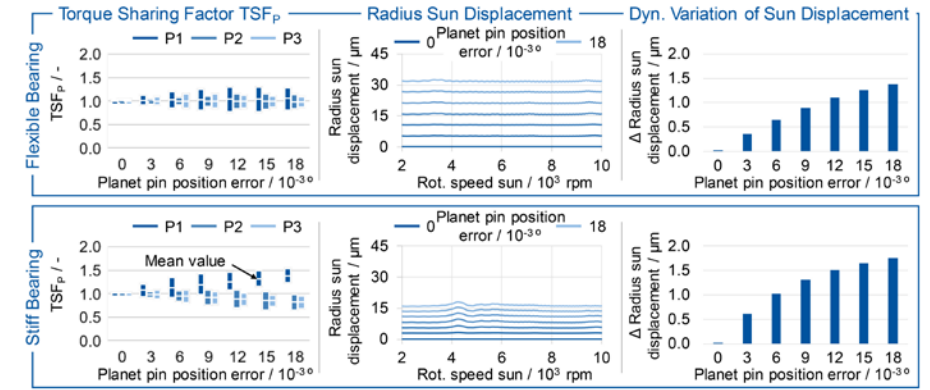
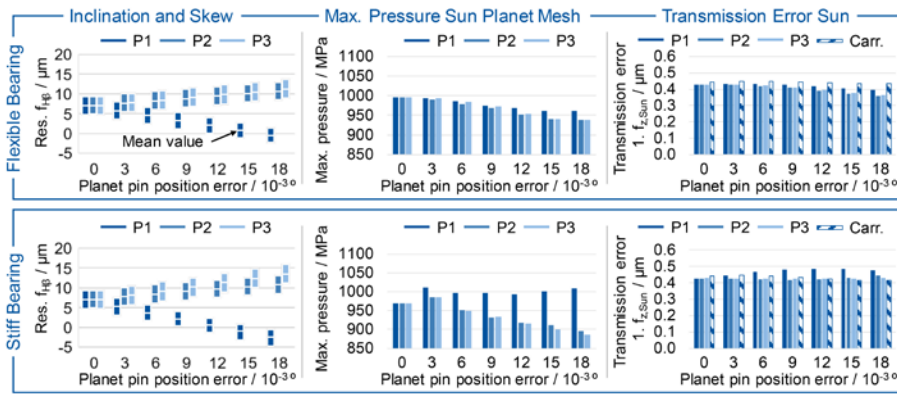

Figure 5 Torque sharing and sun displacement with symmetrical mesh sequence.
Figure 6 Sun-planet displacement and operational behavior with symmetrical mesh sequence.
**Symmetrical Mesh Sequence.** The simulation results for the planet pin position error variation of Planet 1 and symmetrical mesh sequence are shown in Figure 5 and Figure 6. In the case of a flexible sun shaft bearing, the influence of the planet pin position error on the mean torque sharing is only slightly visible, see Figure 5 top left. Planet 1, which is affected by the planet pin position error of  $\varphi_{PPE,1}=0.018^\circ$ , transmits in average 4.5% more torque with a mean torque sharing factor of  $TSF_{1,mean}=1.045$  than with an ideal torque sharing. However, the fluctuation range of the torque sharing factors increases significantly up to  $TSF_{1,max}=1.277$  at maximum planet pin position error. With a stiffer sun shaft bearing, the average torque sharing factor at the first planet is  $TSF_{1,mean}=1.375$  and the maximum torque sharing factor is  $TSF_{1,max}=1.519$  in the case of the highest planet pin position error, see Figure 5 bottom left.
The explanation for the higher torque sharing factors can be found in the comparison of the radial sun displacement, see Figure 5 middle. For an ideal planet pin position, the sun remains in its radial starting position, as expected. In the case of a planet pin position error, the sun shaft performs a circular motion with the rotational speed of the carrier to compensate the deviation. If the planet pin position error is  $\varphi_{PPE,1}=0.009^\circ$ , a radial deflection with a radius of the sun's movement takes place in case of the flexible bearing of  $r_{dyn,sun,flex} \approx 15.5 \mu\text{m}$ , whereas a stiff bearing only permits a compensatory movement of up to  $r_{dyn,sun,stiff} \approx 7 \mu\text{m}$ . The lower adjustment movement of the sun shaft
leads to higher kinematic constraining forces in case of the stiff bearing, which increases the transmitted torque by the protruding planet 1. The dynamic variation of the radial sun displacement over one revolution of the carrier shows smaller differences between the bearing stiffnesses, see Figure 5 right. The dynamic variation of the sun displacement also increases with an increasing planet pin position error.
superimposed. Thus, influences on the rotational misalignment in the tooth contact of the sun-planet-mesh can be expected. In Figure 6, the misalignment components inclination and skew in the tooth contact are converted into a resulting lead angle deviation  $f_{HP}$  according to Wittke (Ref. 11). They are shown on the left as bar plot with the minimum, average, and maximum.
the load-dependent deformation of the carrier. The bar height in Figure 6 on the left represents the dynamic range of the misalignment. With increasing planet pin position error, the misalignment of the individual planets differs significantly. In the contact of the first planet, which is under higher load, the misalignment components inclination and skew compensate each other with a larger planet pin position error, independent of the stiffness of the sun shaft bearing. Since the amount of the sun displacement is different for the flexible and the stiff sun shaft bearings, the compensation also results from a displacement of the planet. Thus it can be concluded that an unbalanced torque sharing leads to a more optimal displacement of the system for the highest loaded planet. Since the mean values of the resulting displacement are less influenced by the stiffness of the sun shaft bearing, higher forces have to be applied to achieve the displacement with a stiff sun shaft bearing. That is the reason for the higher torque sharing factor in Figure 5 and the higher maximum tooth flank pressure in Figure 6. The lower transmitted torque in the two planets without planet pin position error leads accordingly to a maximum tooth flank pressure that is up to 12.4% lower. Here the differences between planet 2 and planet 3 are due to dynamic effects that become visible when evaluating the maximum value.